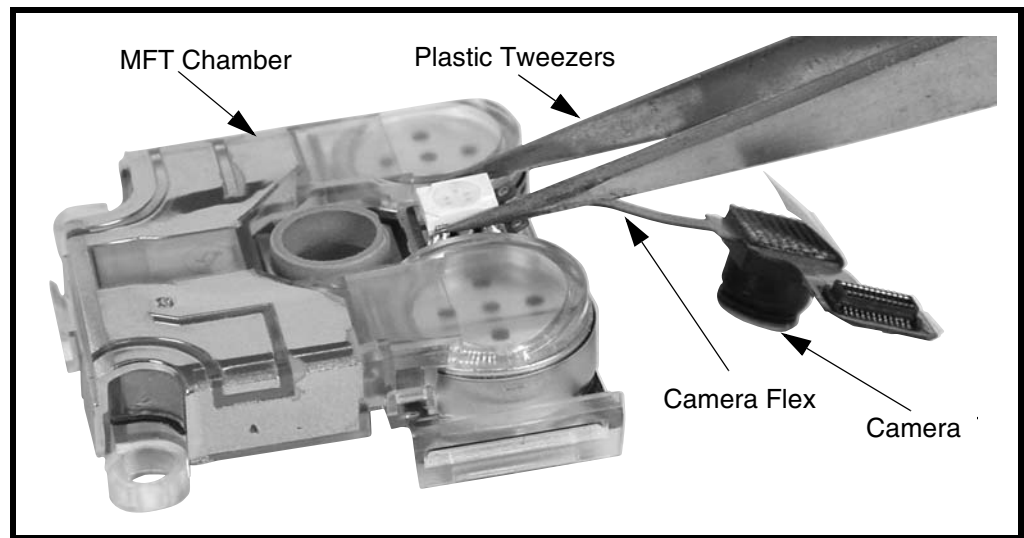

Figure 17. Removing and Replacing the Camera From the MFT Chamber Assembly
2. Disengage the two plastic MFT Chamber assembly side connectors from the transceiver PC board and lift of the MFT Chamber assembly as shown in Figure 17.